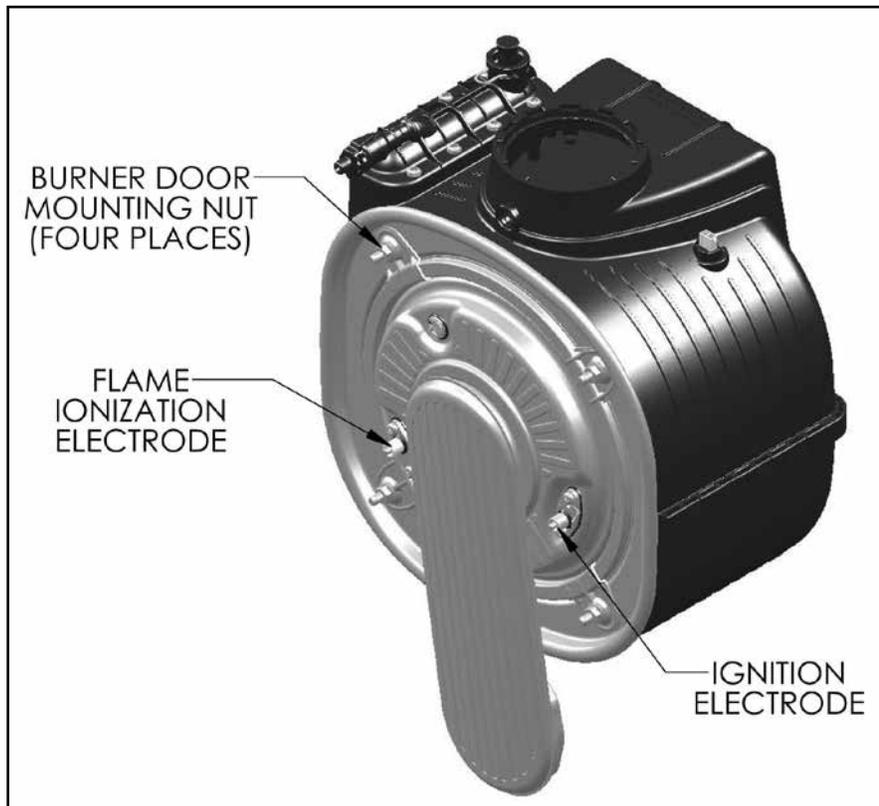

Figure 1.2: Flame Ionization Electrode and Ignition Electrode Location
- i. **Unplug the ignition, ground, and flame rod wires** from the ignition electrode and the flame rod (Figure 1.2).
- j. **Use a 10 mm wrench to remove the four nuts** securing the fire door to the heat exchanger (Figure 1.2). Carefully remove the door/blower/gas valve assembly from the heat exchanger, being careful not to damage the refractory insulation on the inside of the door (see Refractory Warning on next page) or the electrodes.